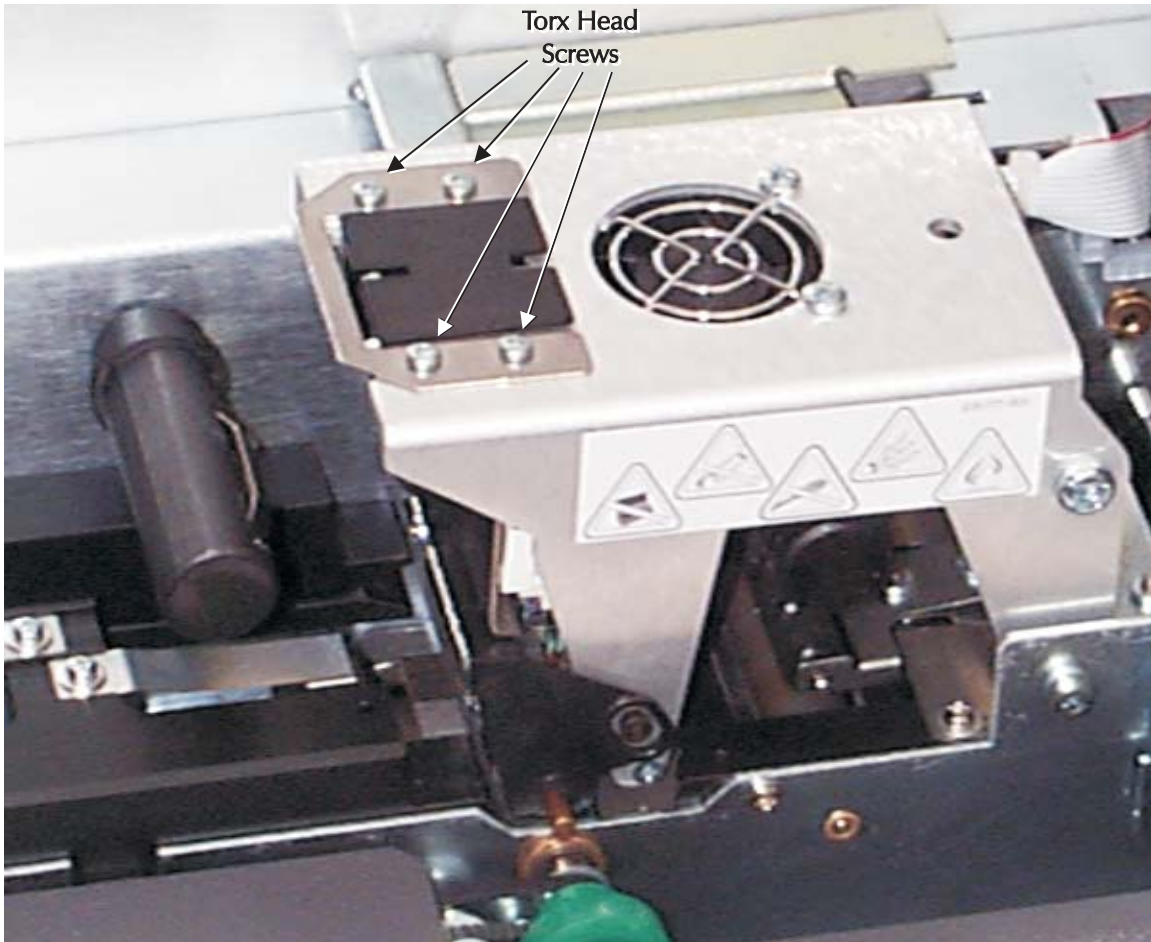

Figure 5-10. Print Head Upper Fastener Removal.
Step 1. As shown in Figure 5-10, loosen the four Torx Head screws on top of the Print Head assembly.